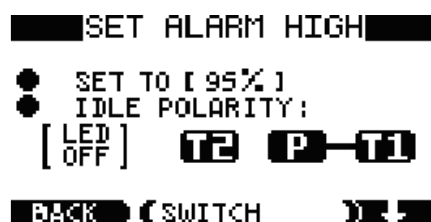

Figure 9: High Alarm Enable/Disable
- 2iv) Use the right-hand button labelled with an arrow to scroll through the menu. Highlight “SET ALARM HIGH” then press the central ENTER button. This brings up the set alarm high menu (shown in Figure 9)
- 4iv) Use the right-hand button labelled with an arrow to scroll through the menu. Highlight SET ALARM LOW then press the central ENTER button. This brings up the set alarm low menu (shown in Figure 9)